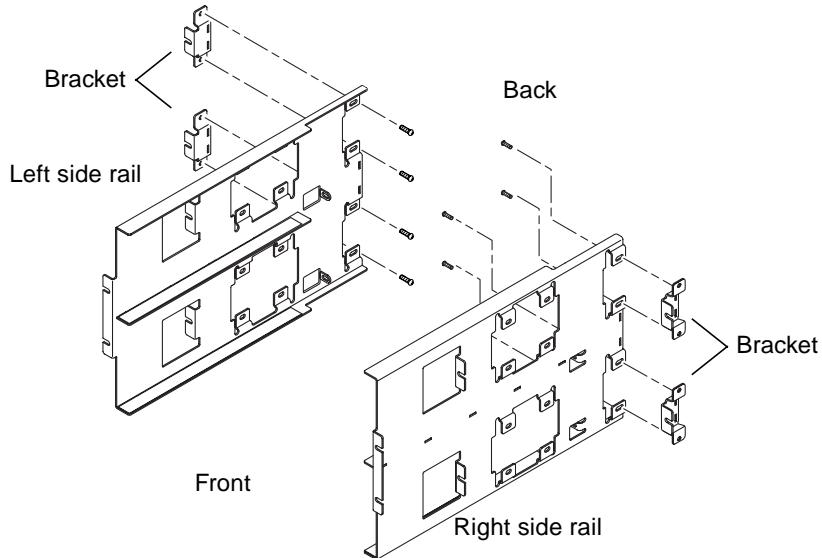

FIGURE 5 Attaching the Brackets to the Side Rails
2. Prepare the side rails by loosely attaching the brackets to both of the side rails (FIGURE 5) using eight screws (part number 240-3017-01) provided in the rackmount kit.